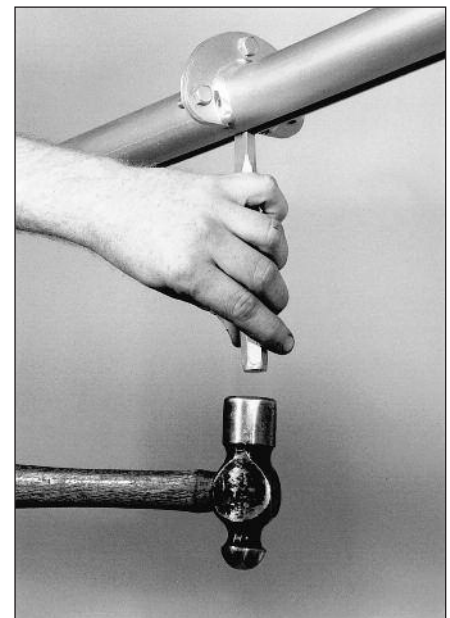

Figure 3
- Use 5/16" x 7/8" lg. bolts c/w lock nut. See **Figure 3**.
- Bolt two adjoining sections of conveyor together. Before tightening the bolts, make sure the slots are aligned. Use a chisel to help align the slots. **Figure 3**.